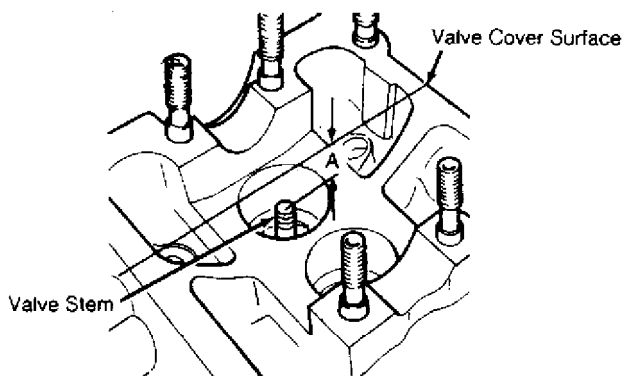

Fig. 14: Measuring Valve Installed Height
1) Check valve seats before any other cylinder head service. Insert the valve and hold firmly against the valve seat. Measure valve stem tip-to-cylinder head distance. See Fig. 14.